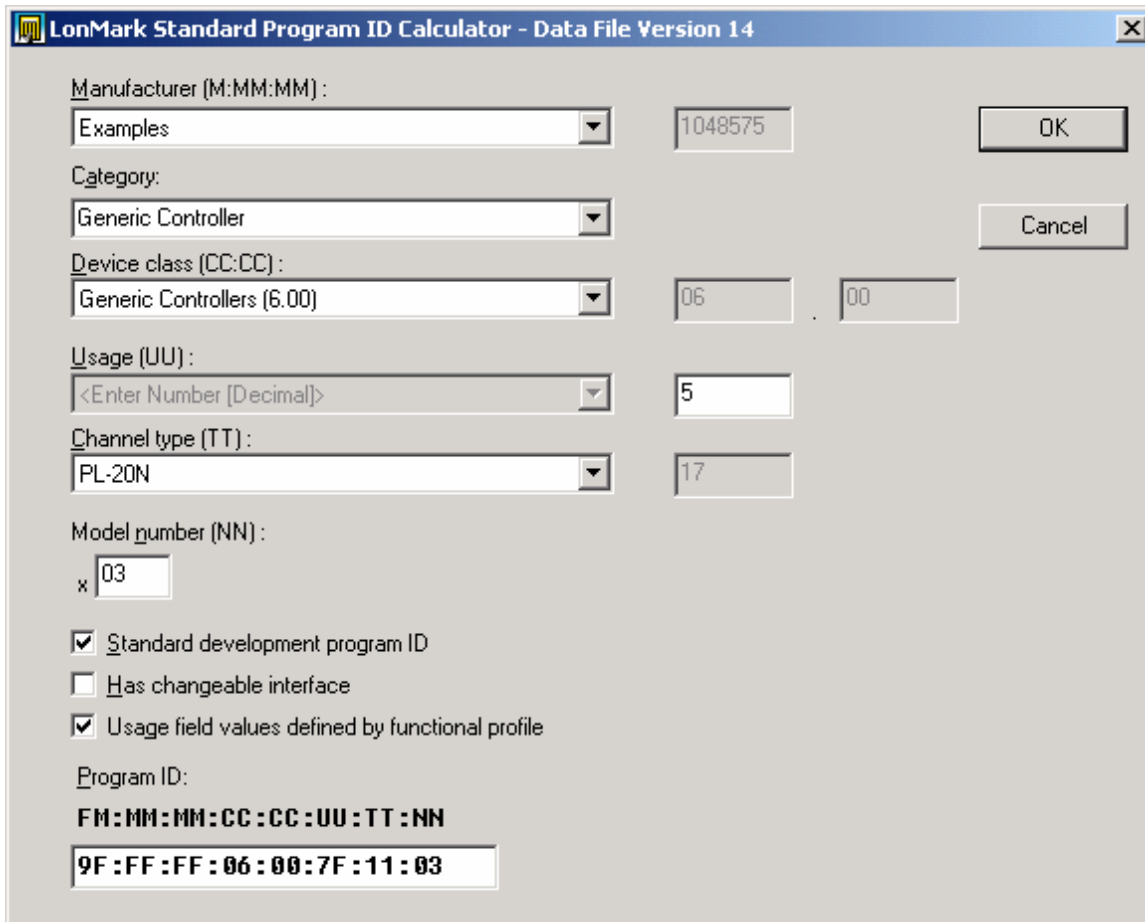

Figure 2.2 Standard Program ID Calculator Dialog
- Click **Calculate** to set the program ID that the application will use with the LonMark Standard Program ID Calculator shown in Figure 2.2. You can set the program ID by manually entering it in the Program ID box at the bottom of the dialog, or you can set the fields on the dialog to appropriate values for your application, and calculate a program ID based on those values. For information on how you should set these fields, see *Selecting a Program ID* on page 16.
The LonMark Standard Program ID Calculator dialog shown in Figure 2.2 helps you to select the appropriate values for each part of the program ID. The calculator displays available values based on a program ID definition file included with the Mini EVK. You can update the program ID definition file at any time by downloading the latest standard program ID data from www.lonmark.org/spid. Copy the file into the **Types** folder of your LONWORKS directory (C:\LonWorks\Types by default).